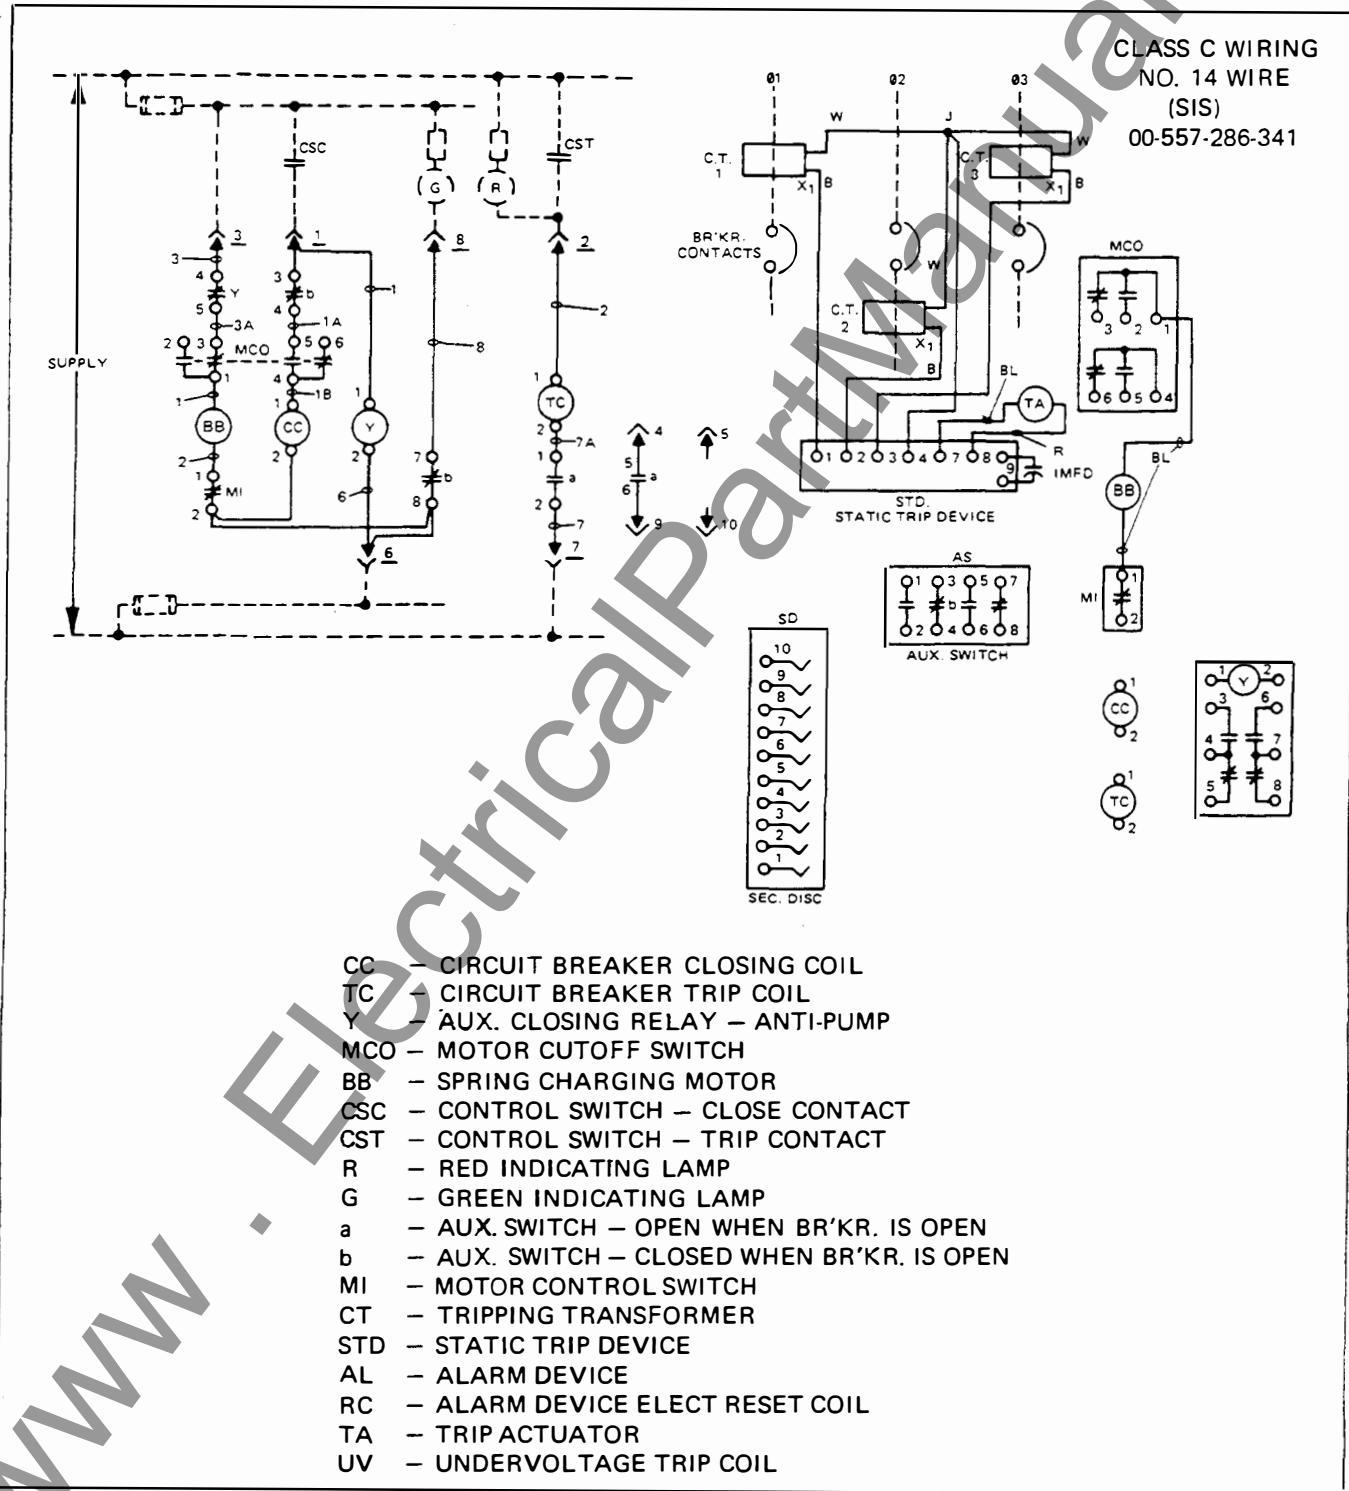

Figure 2. Typical Wiring Diagram — Electrically Operated Breakers
Tripping	Push in manual trip rod (48). OR If shunt trip is provided, operate remote trip control switch (CST). (See Fig. 2).